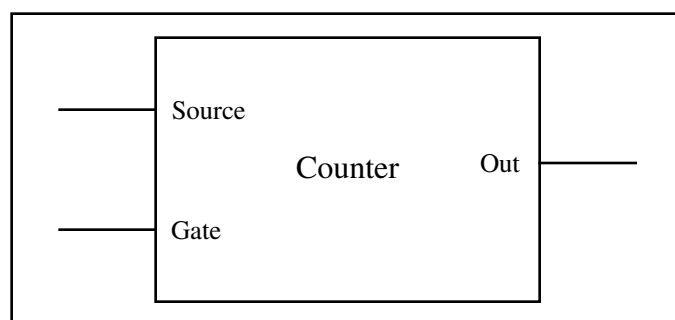
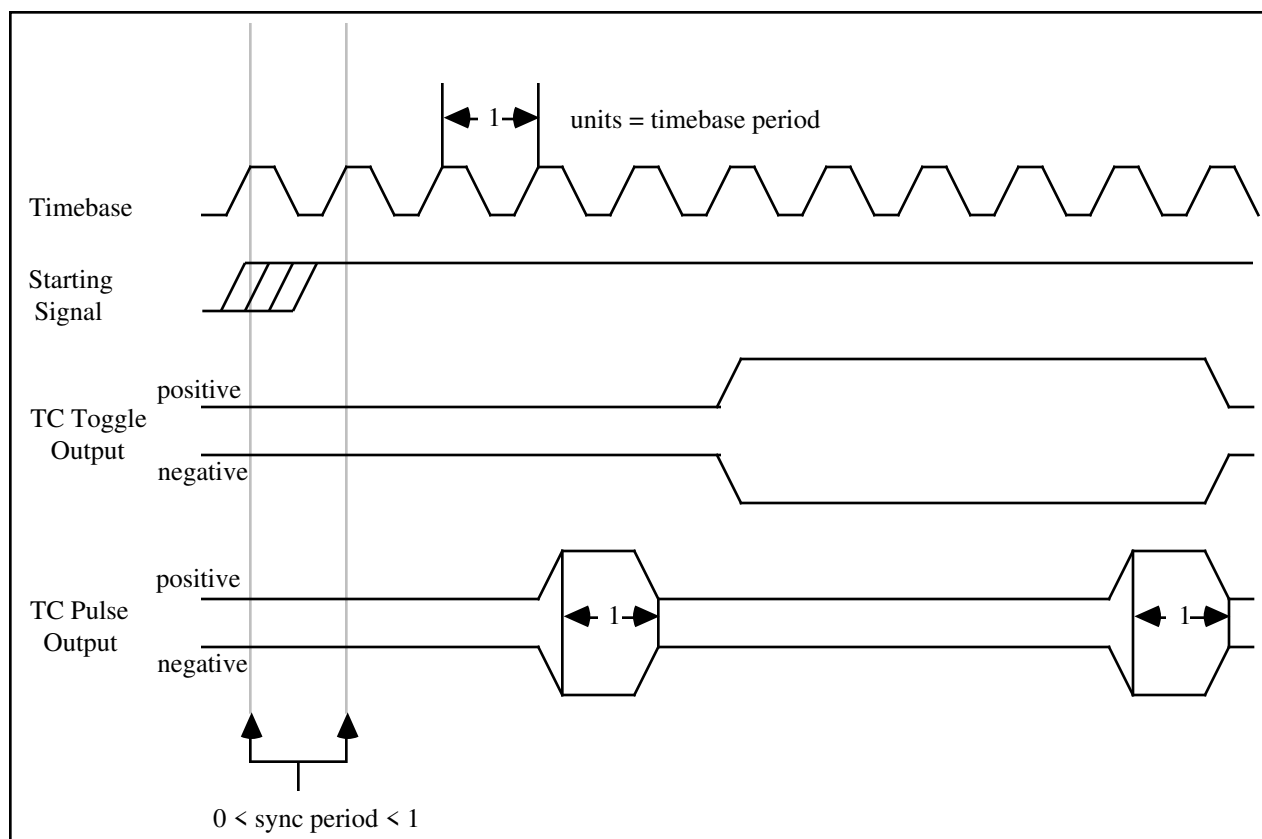

Figure 8-1. Counter Block Diagram
Figure 8-2. Counter Timing and Output Types
The 16-bit counters available on the NB-MIO-16, NB-MIO-16X, NB-DMA-8-G, NB-DMA2800, NB-A2000, and NB-TIO-10 can be diagrammed as shown in Figure 8-1.
The counters generate two types of output signals during counter operation: terminal count (TC) pulse output, and TC toggle output. A counter reaches TC when it counts up to the maximum or down to 0 and rolls over. In many counter applications, the counter reloads from an internal register when it reaches TC. In TC pulse output mode, the counter generates a pulse during the cycle in which it reaches TC and reloads. In TC toggle output mode, the counter output changes state on the next source edge after it reaches TC and reloads. In addition, the counters can be configured for positive logic output or negative (inverted) logic output. Examples of the four types of output signals generated are shown in Figure 8-2.
Figure 8-2 represents a counter generating a delayed pulse (see `CTR_Pulse`) and demonstrates the four forms the output pulse could take given the four different types of output signal available. The TC toggle positive logic output looks like what would be expected when generating a pulse. For most of the Counter/Timer functions, TC toggle output is the preferred output configuration; however, the other signal types are also available.
The starting signal shown in Figure 8-2 represents either a software starting of the counter (for the no-gating case), or some sort of signal at the GATE input. The signal could be either a rising-edge gate or a high-level gate. If a low-level or falling-edge gate, the starting signal simply appears inverted. In Figure 8-1, the counter is configured to count the rising edges of the timebase; therefore, the starting signal takes effect on the rising edge of the timebase, and the signal output changes state with respect to the rising edge of the timebase.